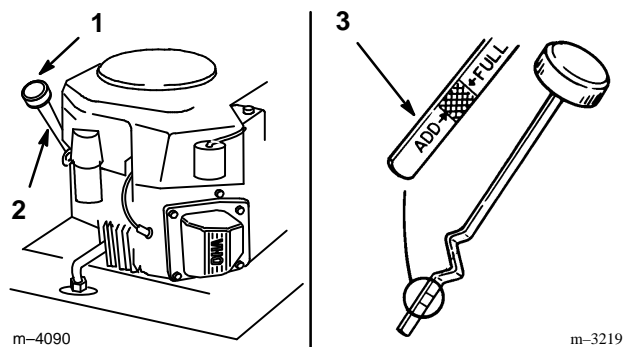

Figure 25
2. Clean around the oil dipstick (Fig. 25) so dirt cannot fall into the filler hole and damage the engine.
3. Unscrew the oil dipstick and wipe the metal end clean (Fig. 25).
4. Slide the oil dipstick fully into the filler tube, do not thread onto tube (Fig. 25). Pull the dipstick out and look at the metal end. If oil level is low, slowly pour only enough oil into the filler tube to raise the level to the “FULL” mark.
5. Slowly pour approximately 80% of the specified amount of oil specified, page 40, into the filler tube (Fig. 25). Now check the oil level; refer to Checking Oil Level, page 41. Slowly add additional oil to bring to “FULL” mark on dipstick.